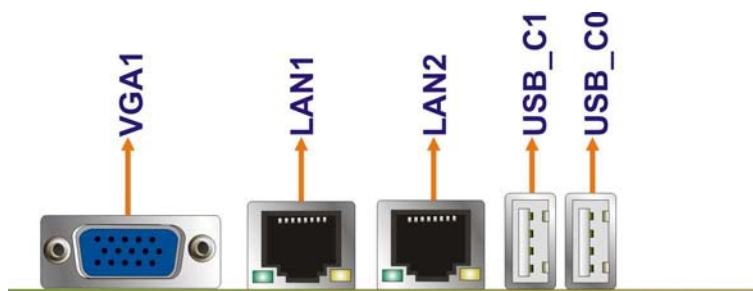

Figure 4-14: SPCIE-3600AM2 External Peripheral Interface Connector
Figure 4-14 shows the SPCIE-3600AM2 external peripheral interface connector (EPIC) panel. The SPCIE-3600AM2 EPIC panel consists of the following:
CN Location:	See Figure 4-14
- CN Location:** See **Figure 4-14**